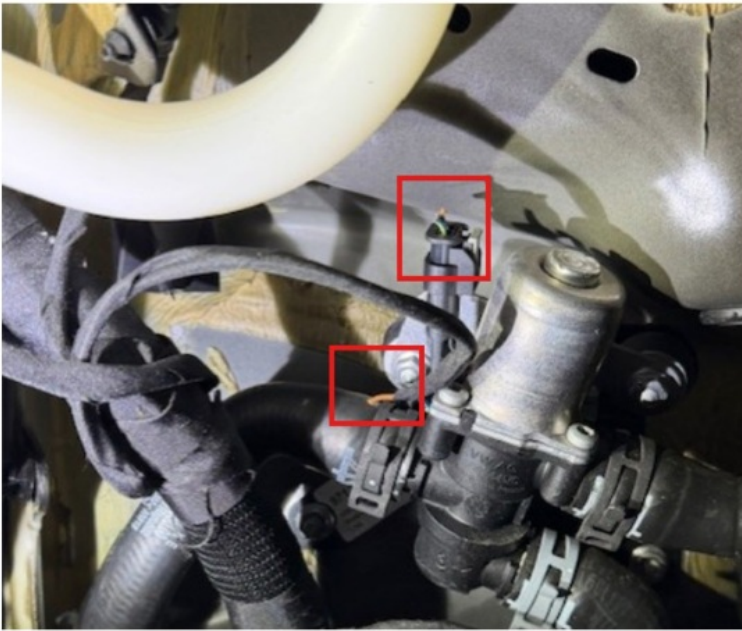

Figure 2. Example wiring damage
7. If any damage is found see example below (figure 2),